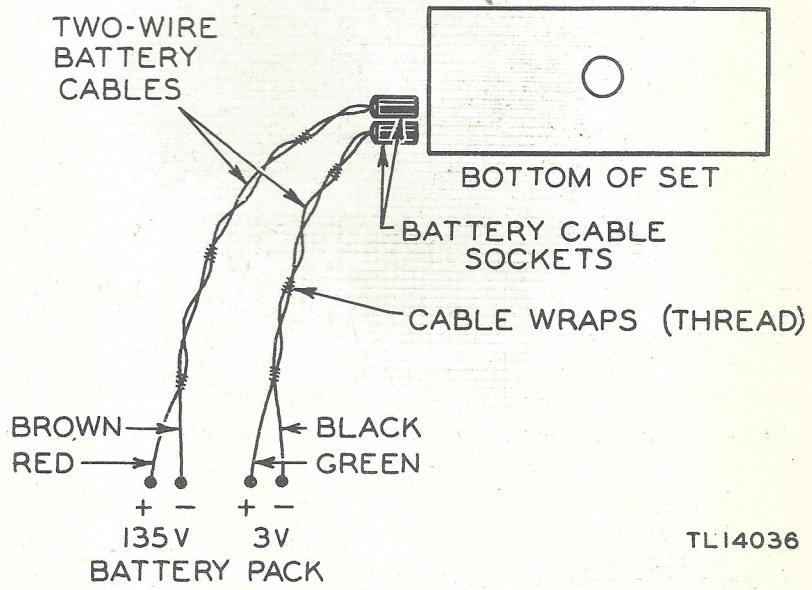

Figure 16. Cording diagram for power supply of battery pack only.
(2) To use the battery pack as the only source of power for the set, refer to cording diagram (fig. 16). Connect the battery pack to the battery cables as described in subparagraph (1) above.
b. Transmitting. (1) Place the ~~送受~~ (transmit-off-receive) switch to the ~~送~~ (transmit) or up position.
(2) To transmit voice, place the ~~音声~~ (tone-voice) switch to the ~~音~~ (voice) or right position.
(3) To transmit tone, place the ~~音声~~ (tone-voice) switch to the ~~音~~ (tone) or left position, and key. When the set is enclosed for portable operation, a soft leather disk covers the key (fig. 16).
(4) The antenna meter indicates antenna current.
(5) Monitor the transmission by the sidetone in the headphones.
c. Receiving. (1) Place the ~~送受~~ (transmit-off-receive) switch to the ~~受~~ (receive) or down position.